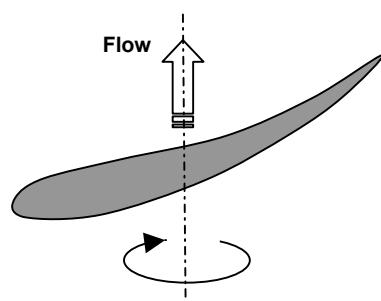

Figure 1
Standard rotation is clockwise when viewed into the air-stream. See figure 1.
- f. 'Bump' the motor to check for clockwise rotation of the impeller, when viewed into the air stream (also see figure 1).